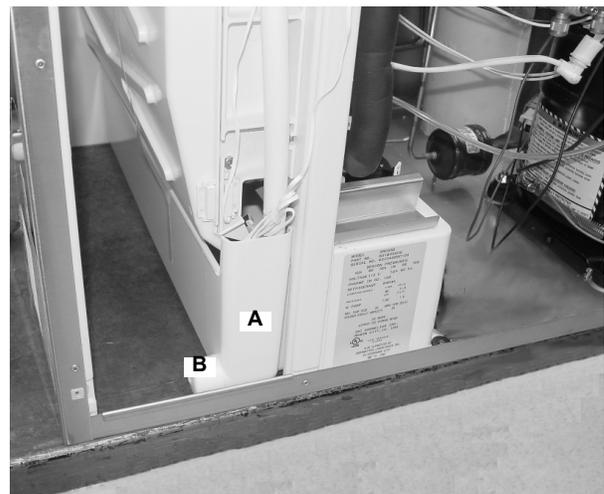

Figure 9.
5. Drain the evaporator water pan (A) by removing the pan cap (B) behind the metal evaporator support (Figure 9).